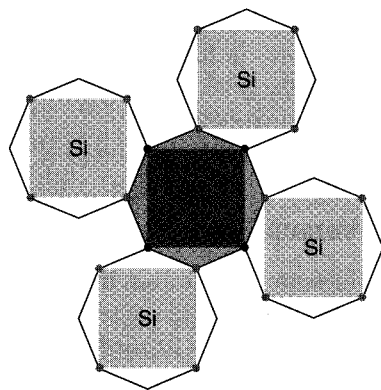

FIGURE 1.4 Silicon covalent bonding.
**Covalent bonding** is the method by which atoms complete their valence shells by “sharing” valence electrons with other atoms. The covalent bonding of a group of silicon atoms is represented in Figure 1.4. To help illustrate the bonding process, each atom has been represented by an octagon (eight-sided figure) containing a square. The octagon represents the valence shell of the atom, and the square is used to identify the electrons that belong to the particular atom. As you can see, the center atom has eight valence electrons,
When semiconductor atoms bond together in a set pattern like the one shown in Figure 1.4, the resulting material is called a *crystal*. A crystal is a smooth glassy solid. You have probably seen quartz crystals at some time. Silicon and germanium commonly crystallize in the same manner. At room temperature, a silicon crystal has fewer free electrons than a germanium crystal. Therefore, silicon is a better insulator than germanium at room temperature (which is a desirable characteristic). This characteristic is one of the reasons why silicon is used more often than germanium to make semiconductor components.